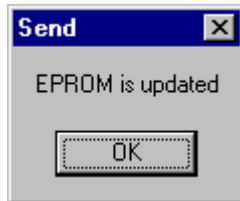

Figure 2-18 : Message 2 when sending the program to the PLC
- ⇒ Wait for the second message "EPROM is updated" and validate "OK" (Figure 2-18).